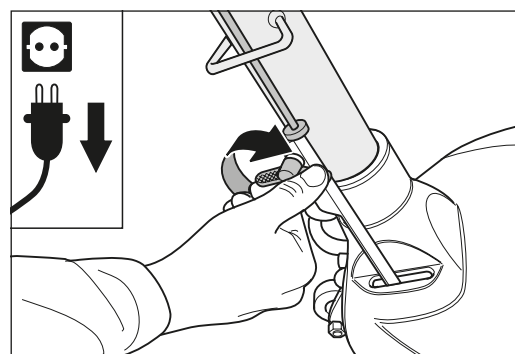
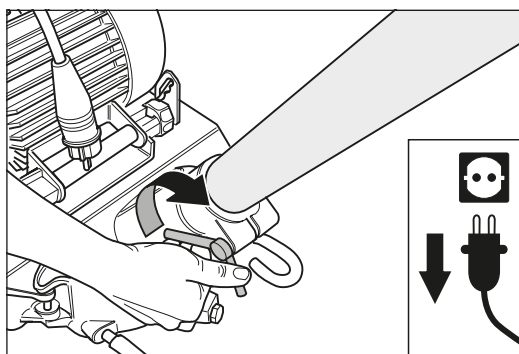

Fig. 60 After inserting the guide tube, carefully tighten the wing screw at the lower rod.
Fig. 61 After inserting the guide tube, carefully tighten the wing nut at the machine housing.
- 3 Carefully tighten the wing screw at the lower rod (fig. 60) and the wing nut at the machine housing (fig. 61).